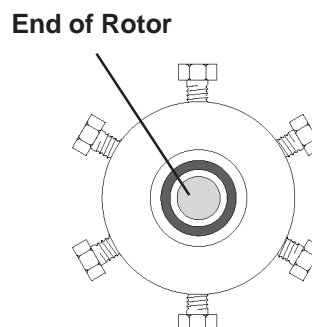

Figure HT-7 Valve with Preload Removed
4. Engage the end of the rotor (Figure HT-7) with a magnet and gently wiggle the rotor to break the “shear seal” between the rotor and interior valve body until it can be lifted out easily.